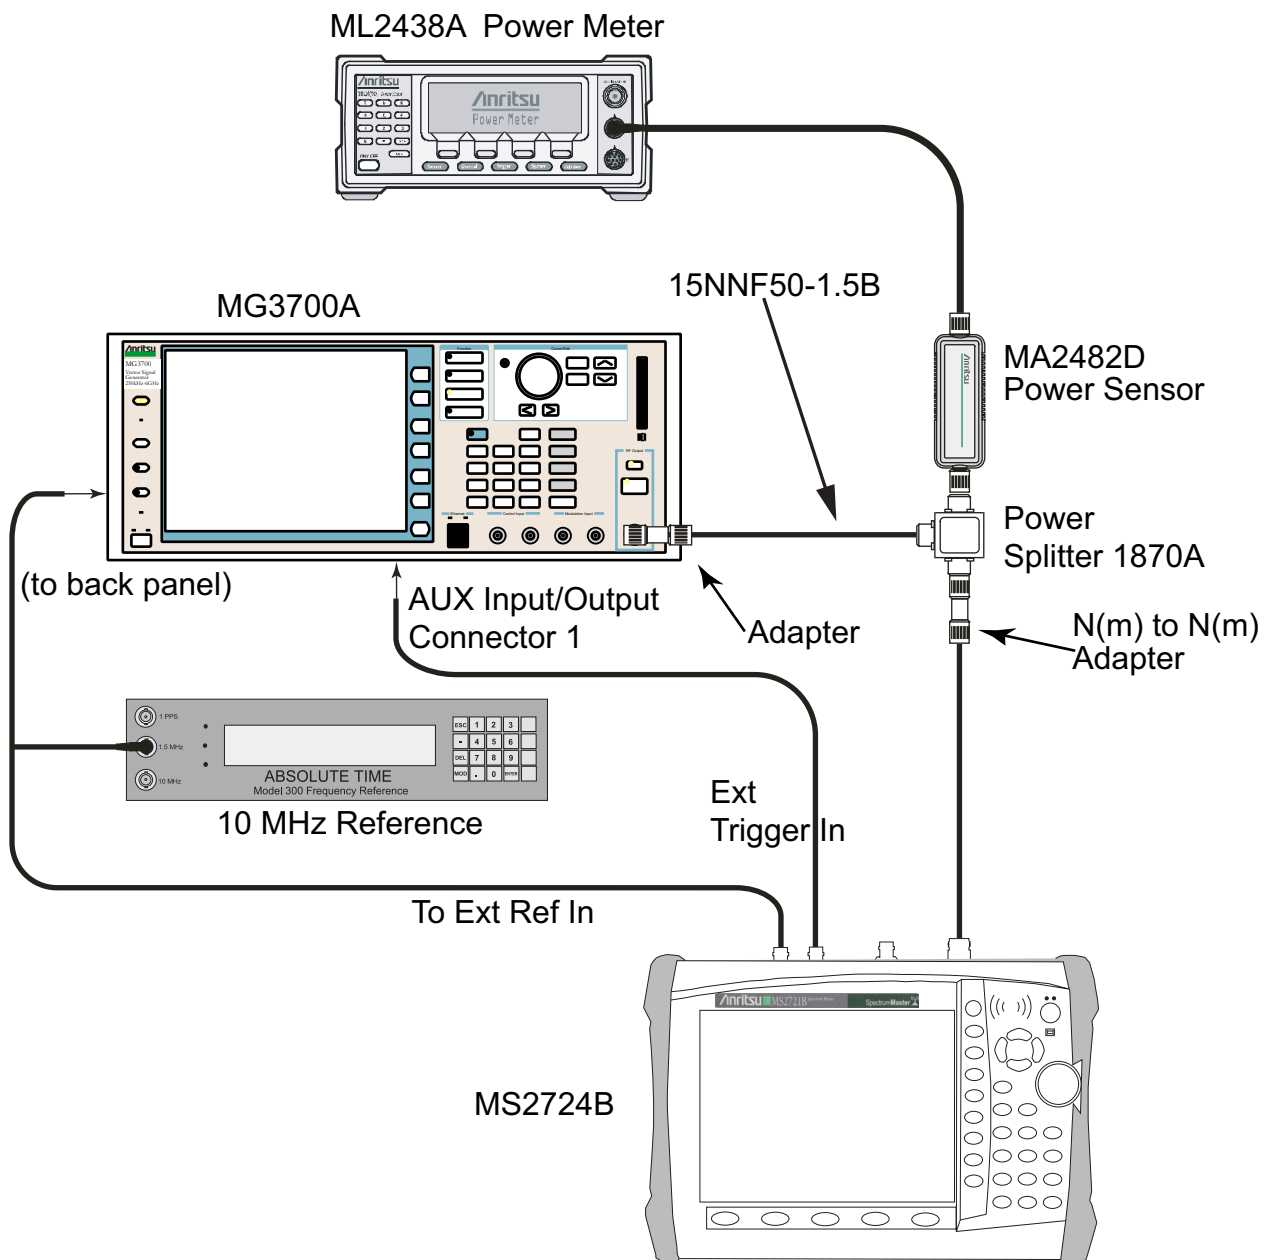

Figure 2-25. EV-DO Signal Analyzer – Test Setup
1. Connect the equipment as shown in Figure 2-25.